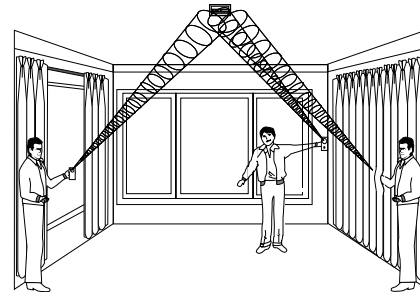

Figure 4. Testing the unit
3. Holding the tester near the surface of the glass, aim the tester at the unit and hold down the test button. If drapes or blinds are present, test with the hand-held tester behind the closed drapes or blinds (do not use unit with heavy or lined drapes). See Figure 4.